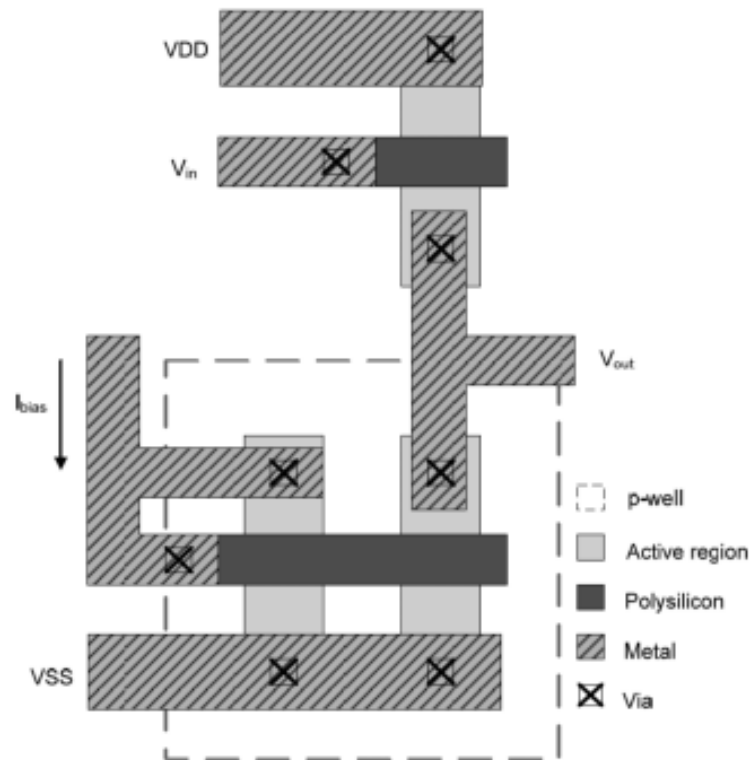

Figure 1: Elements of a layout.
a) Which circuit could the layout in Figure 1 represent? Explain your answer.
In figure 1 we can see a simple current mirror in the p-well, and a source follower. Here the current mirror supplies the bias current of source-follower. These transistors together are commonly used as *voltage buffers*. Some of the perks of using this circuit as a source follower is that it maintains the signal input signal without affecting the system in itself as it usually has a high input impedance and low output impedance, which is important in maintaining the amplitude and integrity of the input signal.